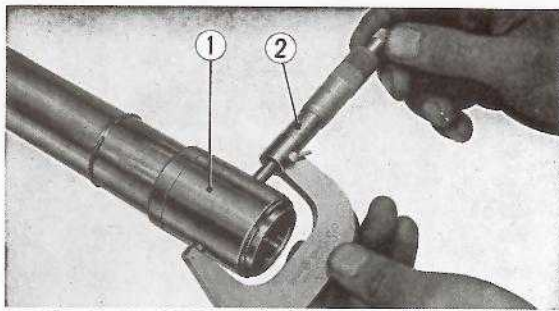

Fig. 11-17 ① Front fork piston
② Front fork pipe setting bolt (8 mm)
③ Front fork pipe setting bolt (10 mm)
3. Measure the diameter of the front fork piston. Use a micrometer to perform this check and if it is found to be less than **1.551 in. (39.4 mm)**, the piston should be replaced. (Fig. 11-17)